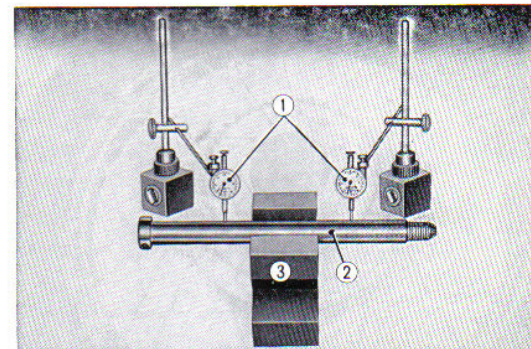

Fig. 4.97 Checking the rear axle for bend
2. Axle bend and wear. (Fig. 4.97)